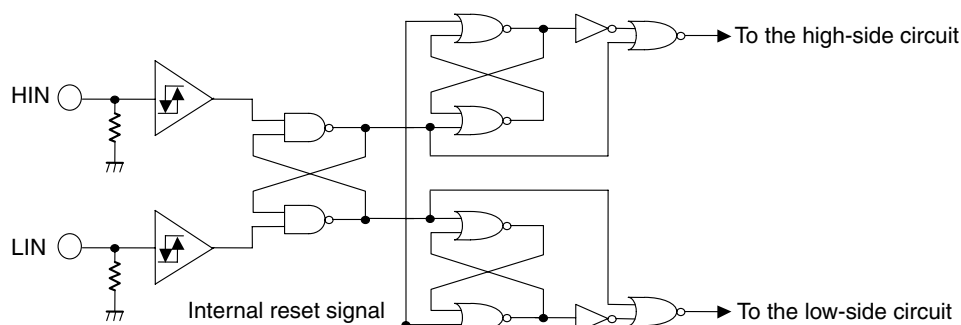

Fig. 6 Circuit for Prevention of Simultaneous Turn-On of High/Low-side Devices
When HIN = LIN = “high” (ON), the logic circuit shown in Fig. 6 works to keep the high-side and low-side outputs in the same state as before the input of simultaneous turn-on signals thus preventing a short circuit between external power devices (IGBT and power MOSFET).